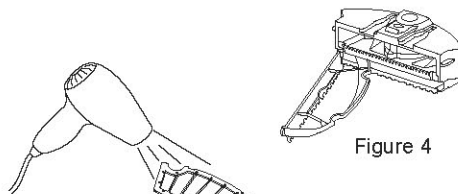

Figure 4
4. Pop up the blower, take out the filter, and then clean the dustbin in water. (Refer to Figure 4)